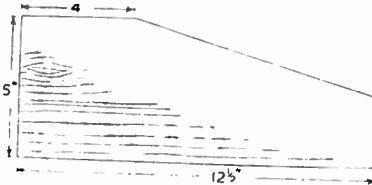

Fig. 3—Shape and dimensions of the ends
A detail of a side (B) is shown in Fig. 3. Two of these are required and they are cut from ¾in. wood. The back